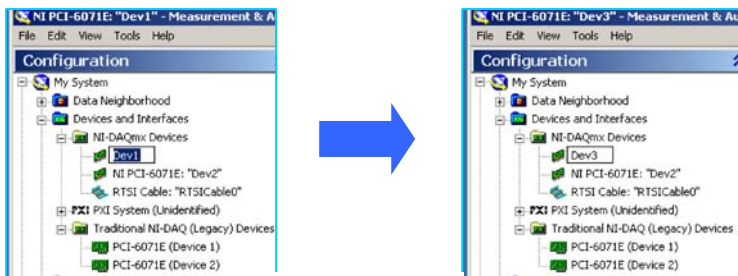

Figure.1-20
6. Rename “Dev1” to “Dev3” (Figure.1-20) Because of the presence of “Dev2”, the “Dev1” can not be directly changed to “Dev.1”